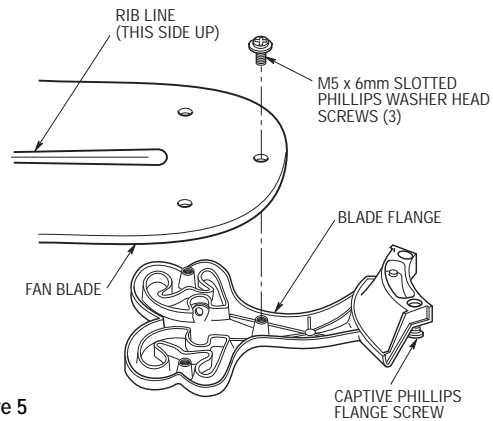

Figure 5
- 7. Mount blade flanges to fan blades using three M5 x 6mm slotted Phillips washer head screws (Figure 5).
IMPORTANT: THE SIDE OF THE FAN BLADE HAVING THE RIB LINE MUST BE FACING UPWARDS AS SHOWN IN FIGURE 5.